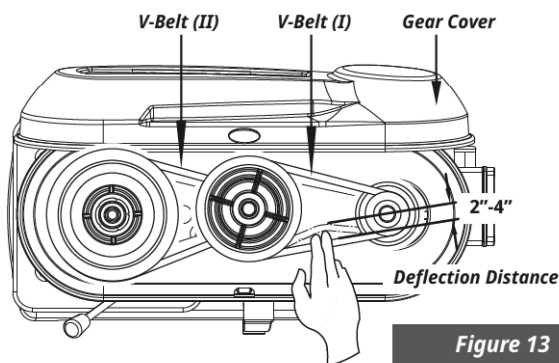

Figure 13
7. Close the gear cover. (See Figure 13)